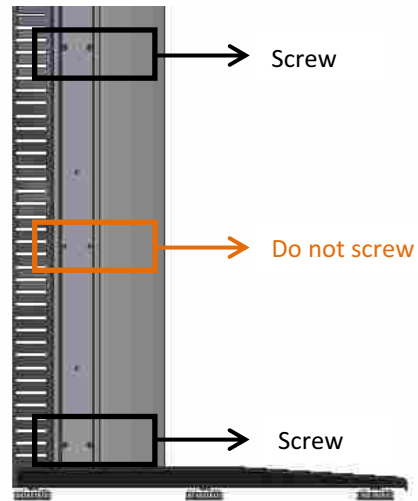

Fig 4
STEP 2 – Screw the **bar** tightly to the **side** with **M6x10 ISO7380 Allen screws** (Fig. 3, except for the second row of screws starting from the bottom (Fig. 4).
To screw the **stabilizer** to the **side + bar**, use the row which was not used in the previous step (the second starting from the bottom, Fig. 4). You will need two **M6x55** and one **M6x16 ISO7380 Allen screws** per side as shown in Fig. 6.